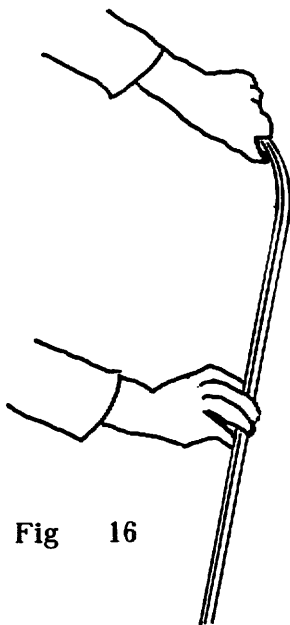
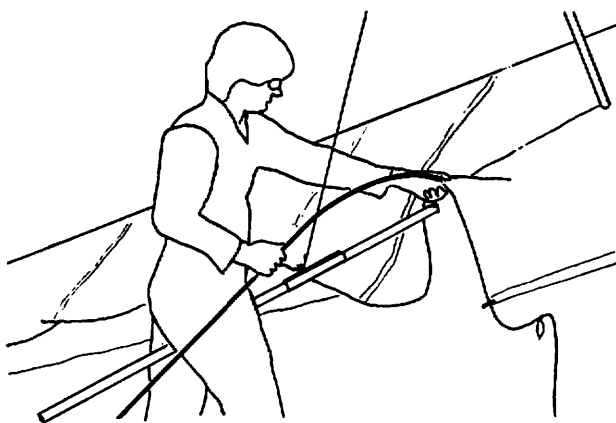

Fig 16
Fig 17
10) Remove the battens from the bag, lay them on the ground, and check them for symmetry, side to side. (Fig 16) Correct any that are assymetric.(See the tuning and maintenance sections of this manual for more information on batten shaping.) Separate the right side battens (those with black tape around the tail end) from the left side battens (no tape). Insert the top surface battens into the sail. Order of battens is longest to shortest from the root out to the tip. Wills Wing numbers battens from the tip inboard, so that the shortest batten (which is the straight plug on batten), is the number one batten, and the longest batten is the #8 batten. When inserting the number 8 battens, you should lift the rear end of the keel and hold it up so that the batten slides in more easily without the rear end scraping the ground. (Fig 17)